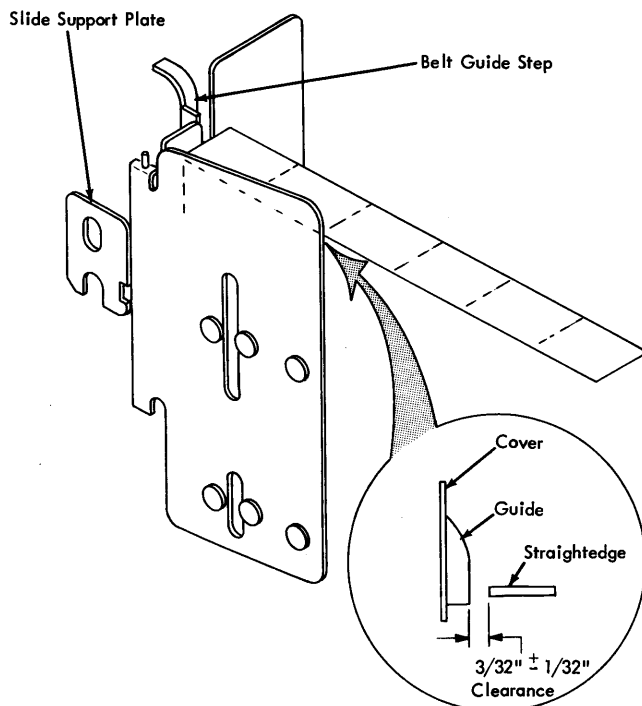

Figure 14. Tractor Door Opening Limit
2. Adjust the slide support plate to limit the tractor door open position. Place a straight edge against the belt-guide step perpendicular to the tractor guide plate as shown in Figure 14. Adjust the slide support plate to obtain $\frac{3}{4}$ " \pm $\frac{1}{2}$ " clearance between the door and the straight edge. Be sure to maintain proper belt tension when tightening the plate holding nut.